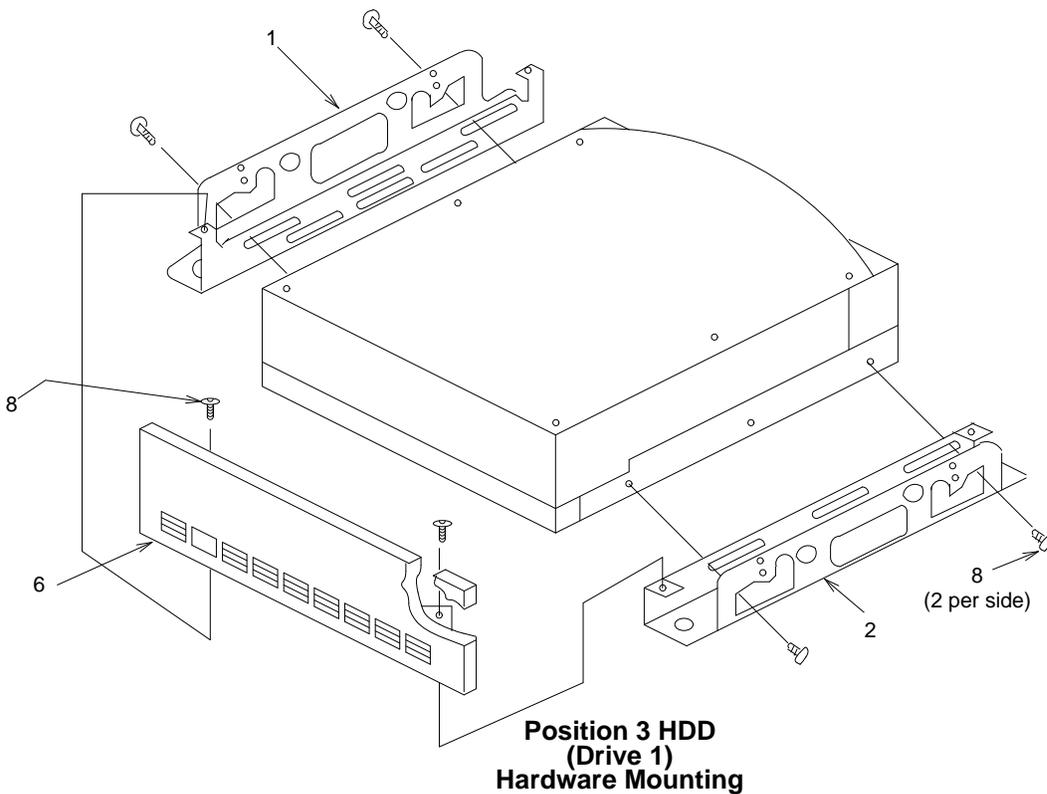

Figure 6-5. Hard Disk Drive Mounting Kit
These screws are shown as Item 8 in Figure 6-5.
8. Place the mounting rails parallel to each other with the smaller of the two flanges of the rails on the inside (Figure 6-5).